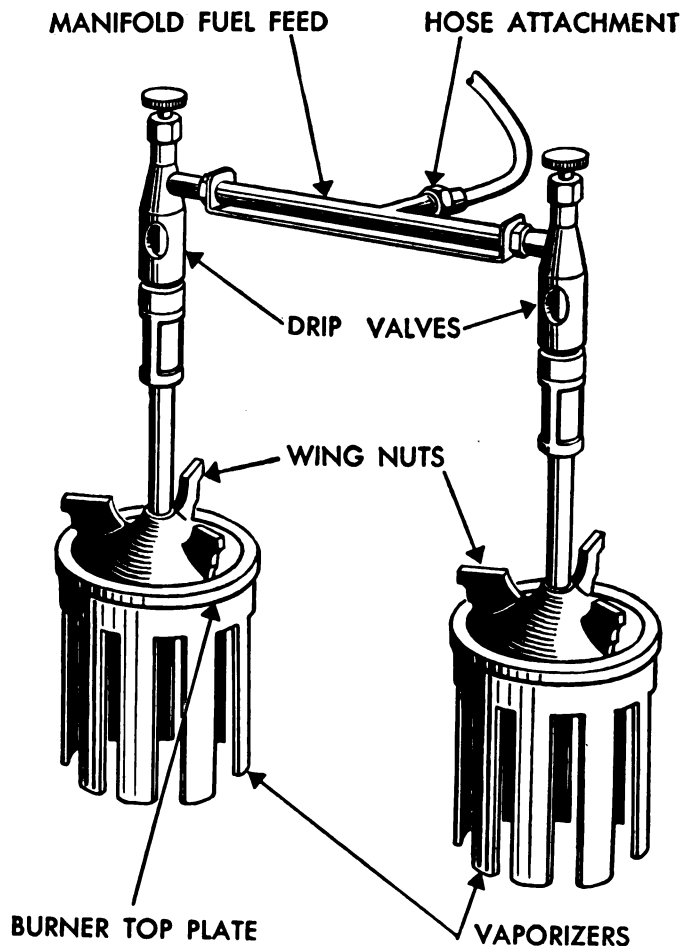

Figure 18. Burners, down draft, gravity-feed.
a. **OPERATION.** Heat for the range is normally furnished by two down-draft, gravity-feed burners (fig. 18). Principal parts of the burner are the
draft, gravity-feed burner, similar to those used with the outfit, cooking, pack. (See par. 19 and fig. 18.)